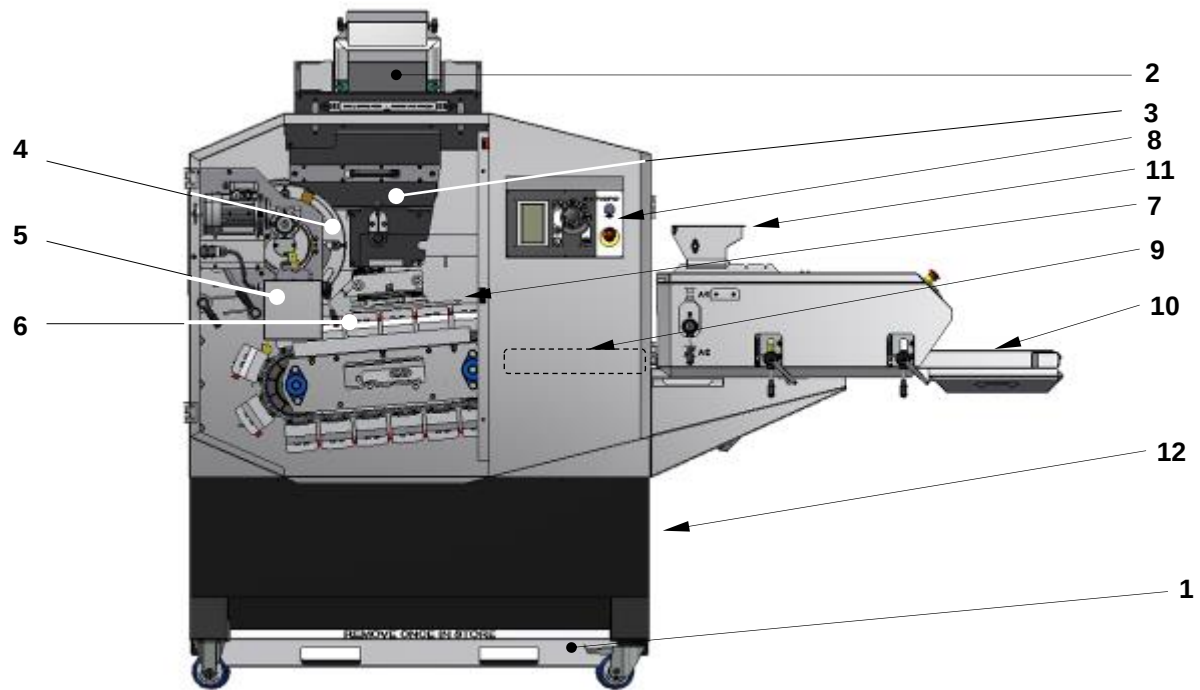

Figure 1 - Main parts of the machine
The basic components of the machine are (see Figure 1):
The constructive versions of the “SYNCRO” and “SYNCRO E” series differ in the appearance of the external design of the machine body; moreover, the moulder shown in Figure 1 ref. 10 allows obtaining additional processing after the rounding of the dough, as shown in Table 3.